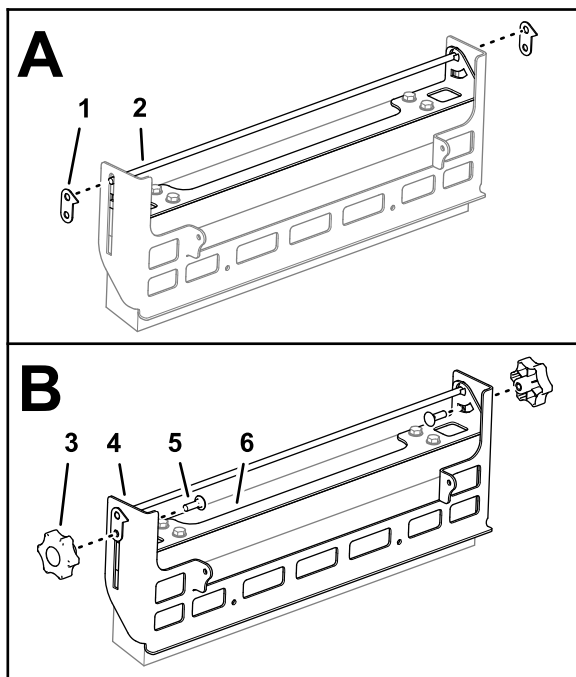

Figure 3
2. Assemble a brush-height plate over the rod end of the handle for the brush-adjustment bracket as shown in Figure 3.
the brush mount, and the lower hole in the brush-height plate (Figure 3).
4. Thread a knob onto the carriage bolt, and tighten the knob (Figure 3).